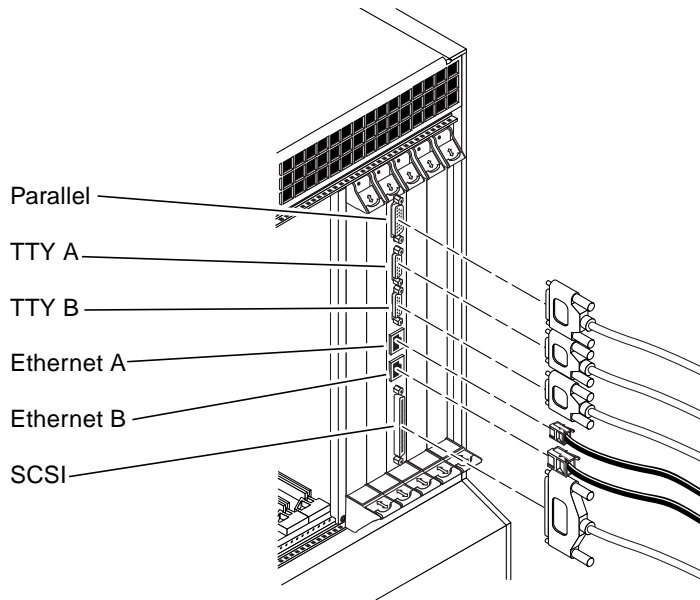

FIGURE 4-9 Connectors on the CPU Rear Transition Card (Netra ct 400 Server)
- CPU rear transition card, Netra ct 400 server—FIGURE 4-9